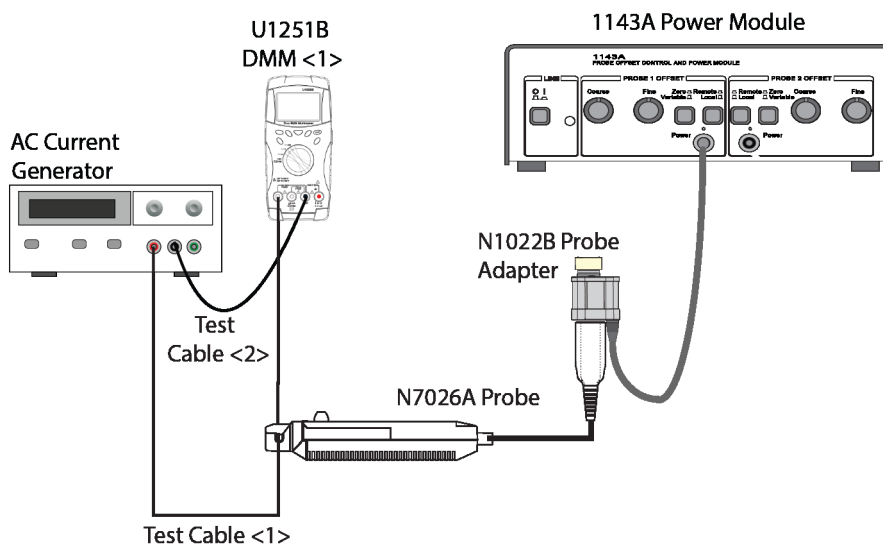

Figure 12 Setting up AC Current Generator
- 8 Connect the test setup as shown in Figure 12 as per the following substeps.